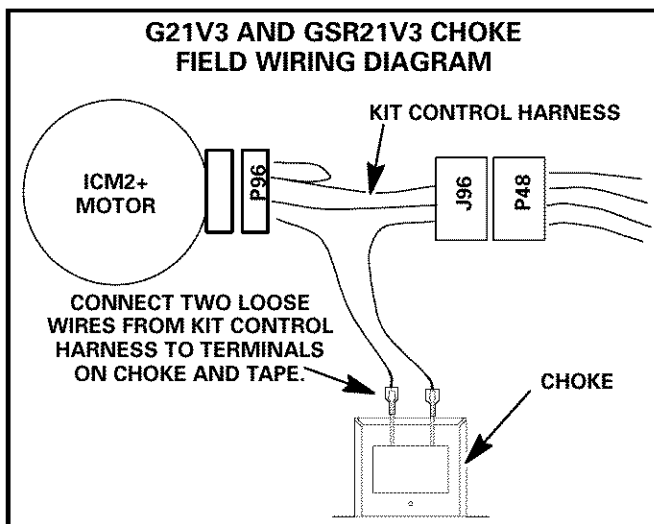

FIGURE 7
18- For G21V3 applications only- Connect two loose wires from kit power harness (J96/P48) to PFC choke terminals. Make sure insulation tubing covers connections. Tape over tubing and wire with electricians tape to ensure protection. See figure 7 for field wiring.
- 25- *For G21V3 applications only-* Connect two loose wires from kit power harness (J96/P48) to PFC choke terminals. Make sure insulation tubing covers connections. Tape over tubing and wire with electricians tape to ensure protection. See figure 7 for field wiring.